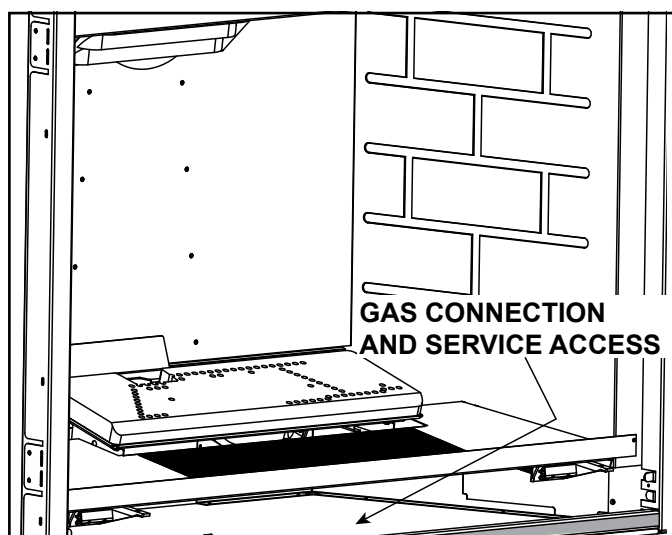

Figure 9.1 Bottom Surround Removal
- The bottom surround for this appliance may be removed to gain access to the control cavity for ease of access during the gas connection process. See Figure 9.1.